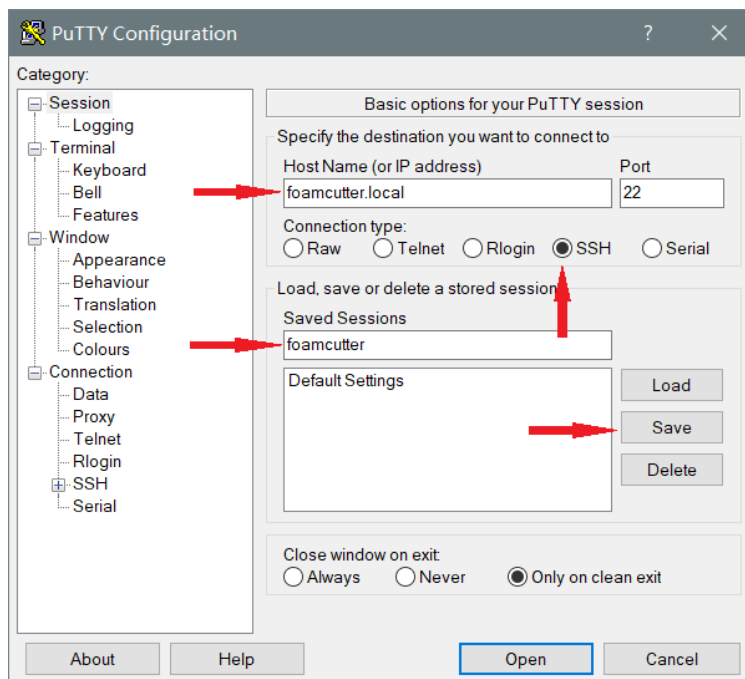

Figure 1.2: PuTTY Setup
- As shown in fig 1.2 below, in the “Host Name” field, enter “foamcutter.local”, then make sure Connection type is SSH. Next, in “Saved Session field”, enter “foamcutter”, and lastly, click save.